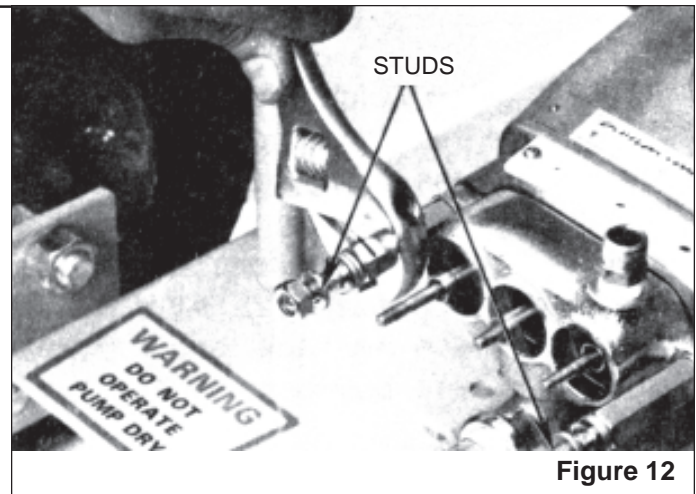

Figure 12
6. Replacing Manifold Piston Rod Seals (seal leak permits water to enter oil wick area). Remove studs as shown in photo (Figure 12).